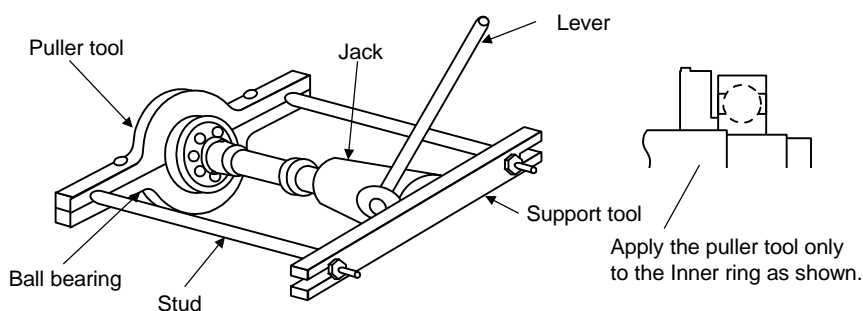

Fig. 3 Example of bearing pulling
- (4) Remove the bearing using a puller as shown in Fig. 3 or commercial rolling bearing puller. When pulling, heat the inner ring.
Fill the hatched area in Fig. 3 with grease. The space to be filled with grease includes the supply sector of the inside oil shield, 2/3 of the other sector, the feed route from the grease nipple, the bearing interior, and portion A in the drain area.